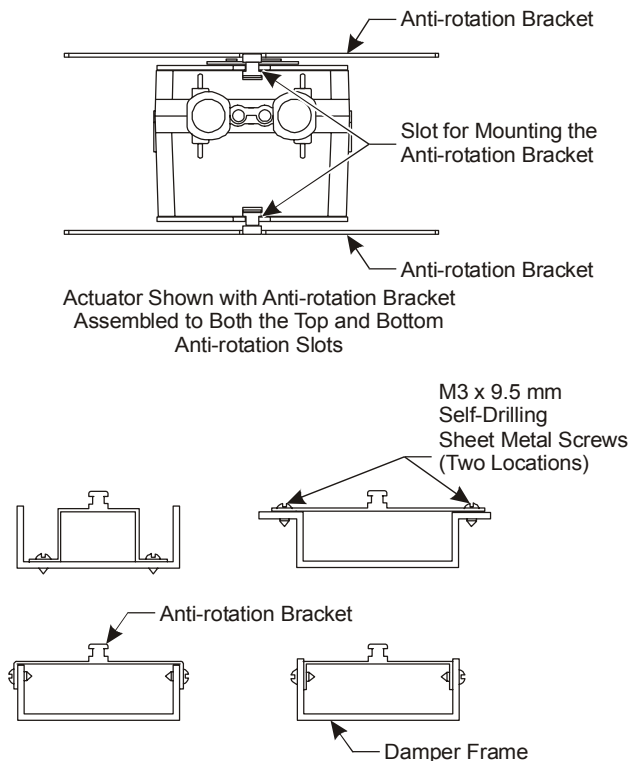

Figure 5: Fitting the anti-rotation bracket on the damper frame or duct
2. Bend or cut the anti-rotation bracket to fit the damper frame or duct as illustrated in Figure 5.
5. Slide the actuator onto the damper shaft, and position the tab of the anti-rotation bracket into the slot at the bottom of the actuator as illustrated in Figure 5.